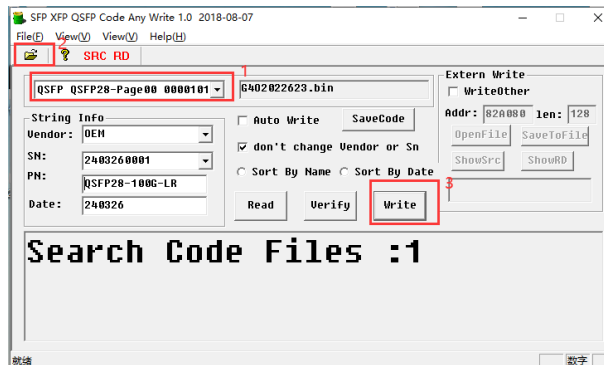

Figure 21
3.1 Select the configuration file "QSFP QSFP28-Page00 00001011" corresponding to the 100G LR optical module with the password "00001011" (as shown in Figure 21)
3.2 Click  Or select the menu: File->Select Code Source Foler, select See below,choose the folder where you saved the codes, Click OK. (as shown in Figure 21)
3.3 Click the "Write" (as shown in Figure 21)